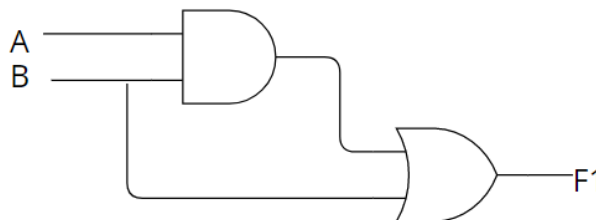

Figure 4.3: Circuit 1 using basic gates.
- a) Implement the following circuit in Figure 4.3 using basic gates and fill the truth table (Table 4.1).